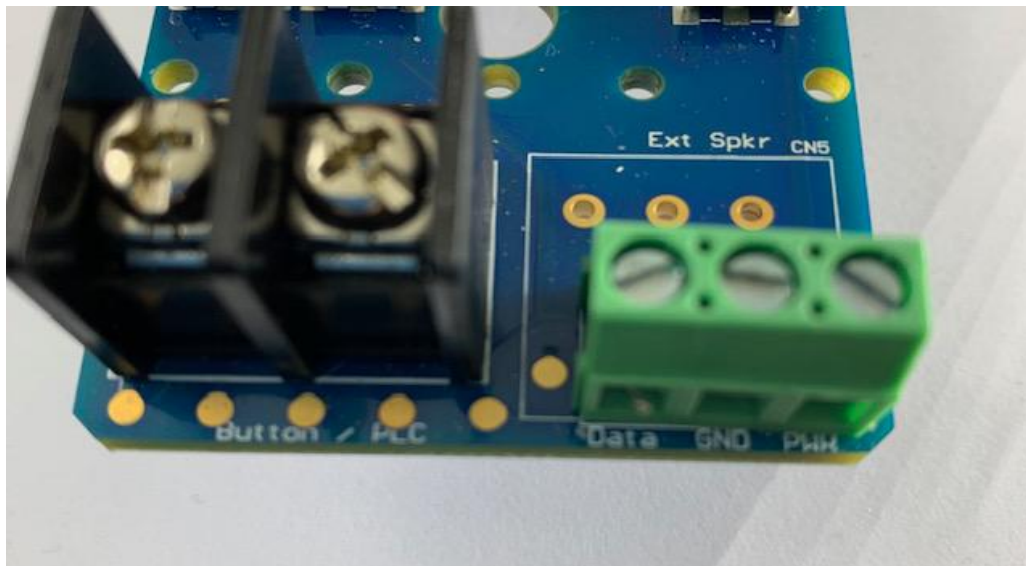
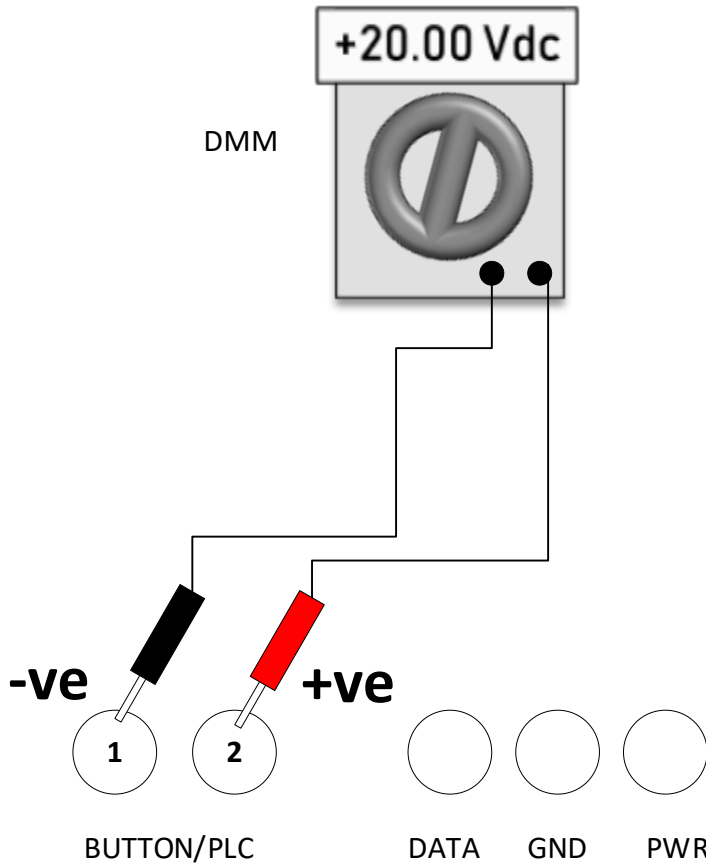

Figure 1
Figure 2 A simple diagram of the iN3 terminals only, with the addition of a Digital Multimeter.
1. On the first APS Button, remove the APS Button Cover. The Button/PLC - 2 position terminal block (Black), and the Data, GND and PWR – 3 position terminal block (Green) are now visible, as shown in Figure 1 below.
A simple diagram of the iN3 terminals only, from Figure 1, is shown below in Figure 2, with the addition of a Digital Multimeter: